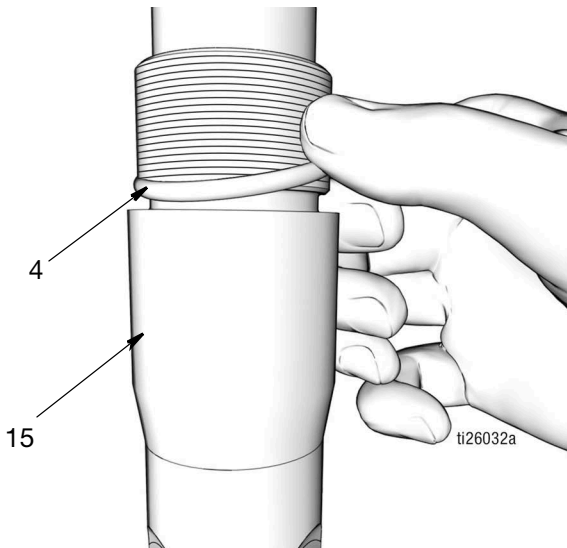

FIG. 44
- a. Use a clean cloth to wipe down the outlet check valve (15) and remove any dirt or contaminants. Inspect surface for any scratches or damage. Replace damaged parts.
- b. Apply a thin layer of grease to o-ring (4). Install o-ring around the outlet check valve (15) (FIG. 44).